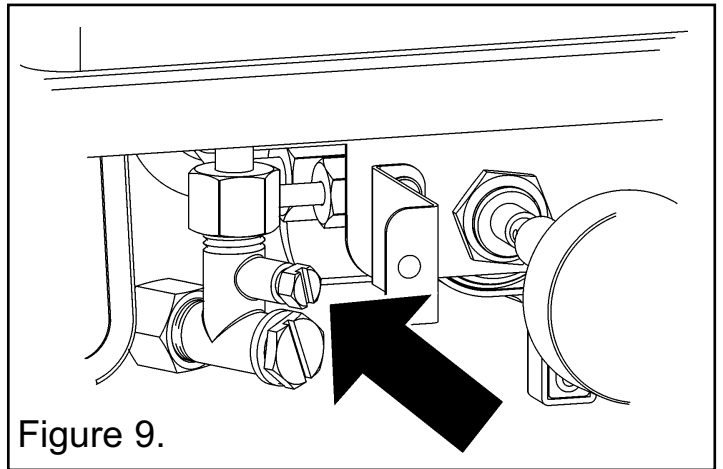

Figure 9.
– Check the inlet pressure by fitting a pressure gauge at the test point. The test point is on the inlet ‘T’ connector (See figure 9). Check the pressure with the appliance alight and set at maximum output.